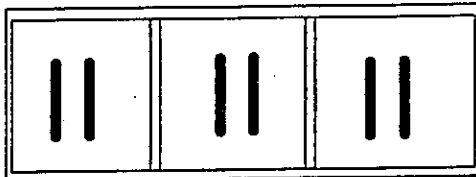

Figure 2 - Segregated Phase Bus Cross Section
- (2) Segregated phase bus. All conductors are in a common metal enclosure and the phases are segregated by metal barriers. (Figure 2)